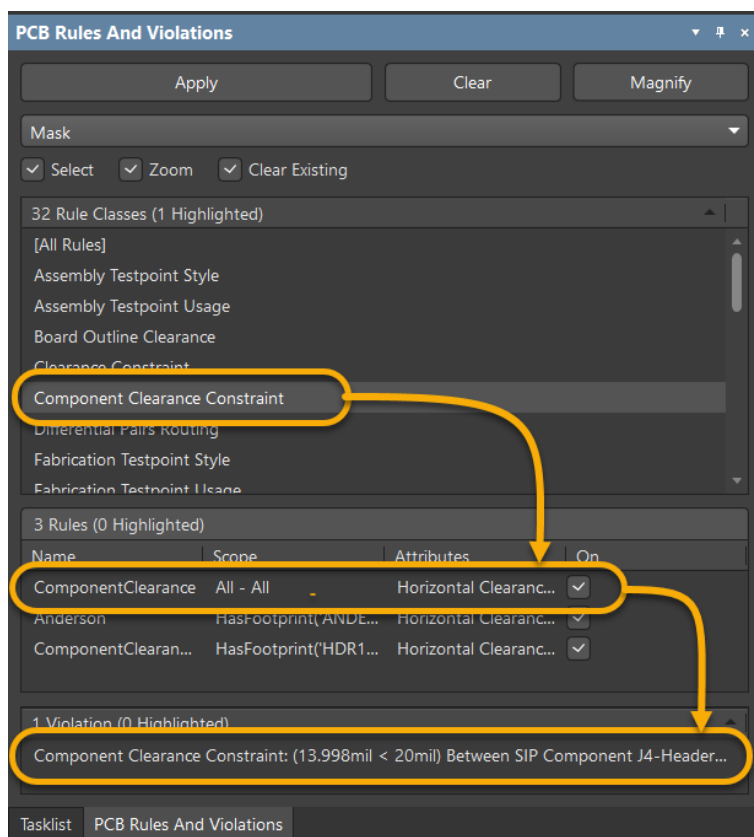

Figure 17. Component Clearance rule class
37. Back in the PCB, select the **Component Clearance Constraint** rule class from the *Rule Class* section, to view its 3 rules and the Component Clearance Violation <20mil as shown in Figure 17.